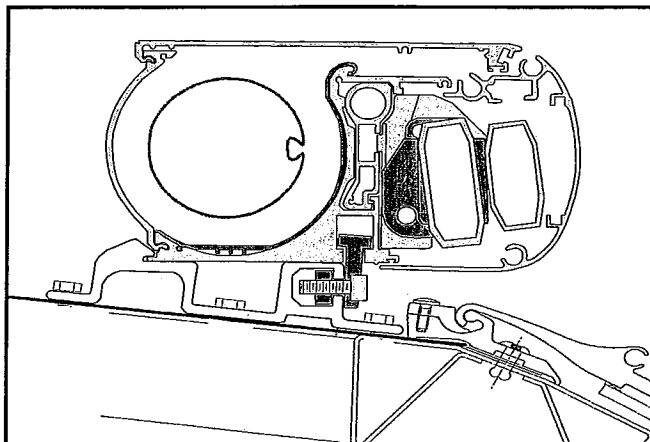

Fig. 2.3 D Tighten all screws
4. Finished mount should look like fig.2.3 D (Prevost XLII example).